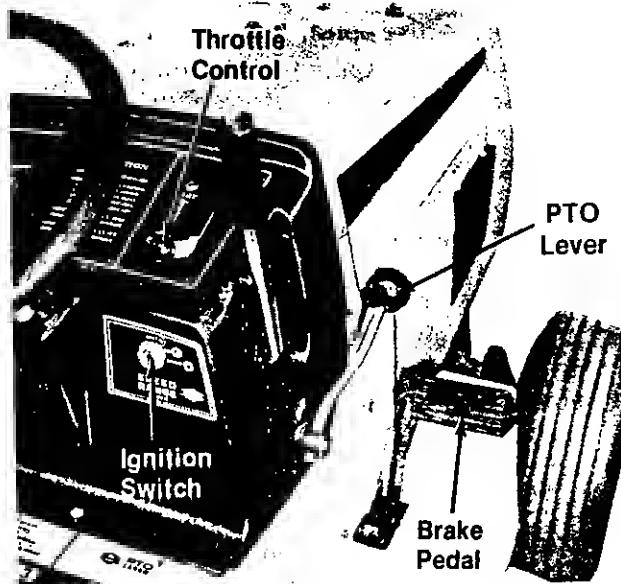

FIGURE 3.
Throttle Control—The throttle control is located on the right side of the dashboard and is used to regulate the engine speed. The engine should be operated from 3/4 to full throttle (fast) when operating any equipment that uses the tractor engine as a source of power such as the mowing deck, snow thrower or rotary tiller. See figure 3.
Ignition Switch—The ignition switch is located on the right side of the dashboard. Turn the key to the START position to start the engine. When the engine is running leave the key in the ON position. To stop the engine, turn the key to the OFF position. See figure 3.
Brake Pedal—The brake pedal is located on the right side of the frame. Depressing the brake pedal will engage the disc brake located on the transaxle. The clutch pedal MUST be depressed as well as the brake pedal to stop the tractor. See figure 3.
Power Take Off (PTO)—The PTO lever is located on the right side of the tractor. Moving the lever forward engages the PTO and moving it backward disengages it. Figure 3 shows the PTO lever in the engaged position.
- A. Disengage the PTO lever. See figure 3.
- C. Set the throttle control in the fast position. See figure 3.
- E. Turn the Ignition key clockwise to the start position. See figure 3.